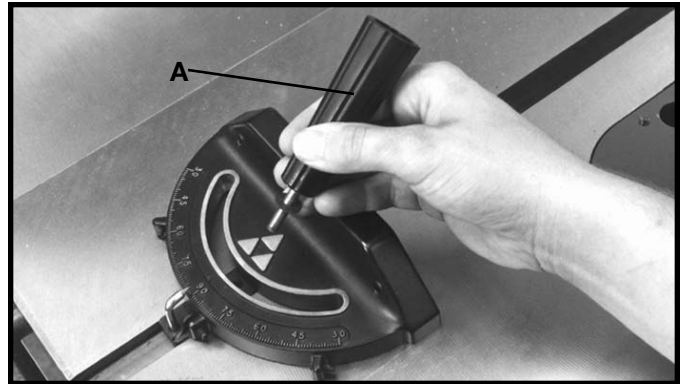

Fig. 127
Insert the miter gage bar into the miter gage slot and assemble the washer and lock handle (A) Fig. 127, to the miter gage bar as shown.